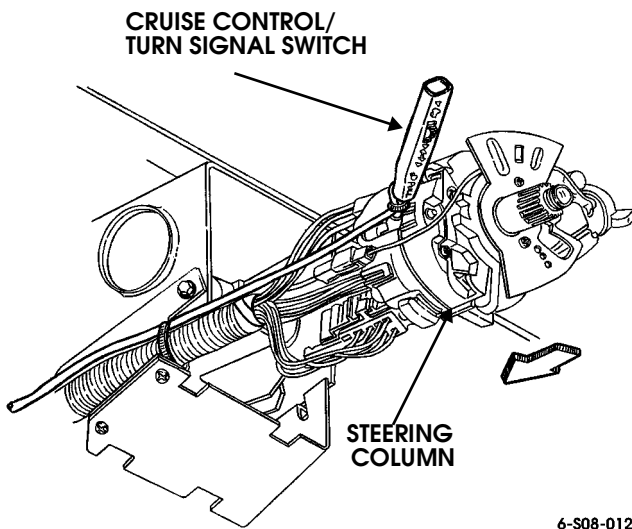

Figure 13-68: Cruise Control/Turn Signal Switch
2. Disconnect switch connector from cruise control harness connector (Figure 13-68).
1. Install switch in steering column (Figure 13-68).